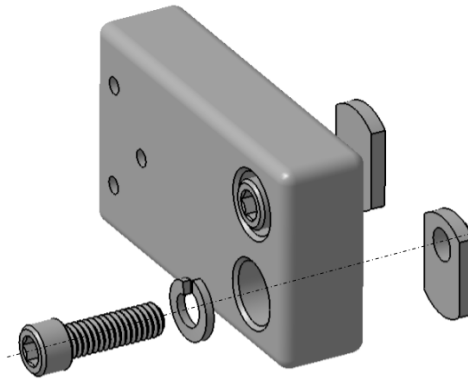

Fig. 4.23: Insert screws (#JYBC) through washers (#QTAS) to the T-nuts (#YREC).
- ❑ Use the two end-feed T-nuts 5/16"-18 (#YREC) to connect through the hole on the rectangular block (#LZWT) with two 5/16"-18 1" long screw (#JYBC) and two 5/16" split lock washers (#QTAS). Do not fully tighten the screws because you will need to slide the rectangular tube profile into the slots later. Repeat for the second hole, as shown in Fig. 4.23.